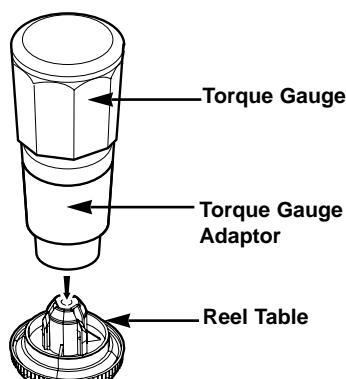
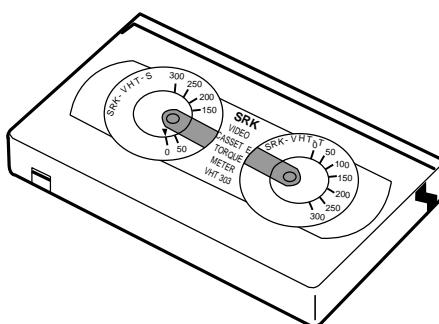

Fig. C-3-1
Fig. C-3-2
• Torque Gauge(600g/cm ATG) • Torque Gauge Adaptor • Cassette Torque Meter	• Play (FF) or Review (REW) Mode
• Perform each Deck Mechanism mode without inserting a cassette tape(Refer to above No.2 Preparation for Adjustment). • Read the measurement of the Take-up or Supply Reels on the Cassette Torque Meter(Fig. C-3-2). • Attach the Torque Gauge Adaptor to the Torque Gauge and then read the value of it(Fig. C-3-1).